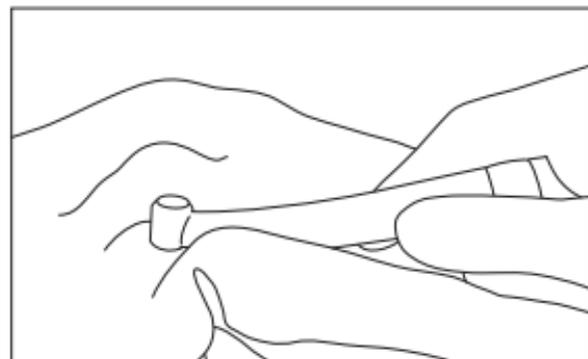

Fig. 7
- 3) Wipe the exterior of the handpiece clean using a cloth moistened with disinfectant or ethanol with a concentration of 60-90% (Fig. 7).